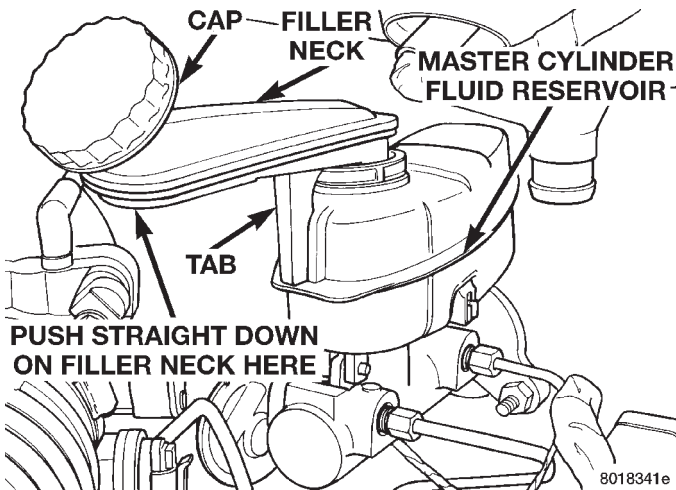

Fig. 177 Master Cylinder Fluid Reservoir Filler Neck INSTALL
(1) Check brake fluid level in master cylinder fluid reservoir to be sure brake fluid is not in the filler neck. If brake fluid is in filler neck, lower fluid level before removing filler neck from fluid reservoir
(2) Grasp filler neck at cap end (Fig. 177) and push straight down. This will cause the filler neck to pop out of the fluid reservoir.
(1) Wet the O-ring on the reservoir end of the filler neck with fresh clean brake fluid.
(2) Position the filler neck in the opening on the fluid reservoir. Ensure tab on filler neck (Fig. 177) is in the groove on the front of the fluid reservoir.
(3) Push down while slightly rocking filler neck until filler neck snaps into the fluid reservoir opening.
(4) Install cap on filler neck.
(5) Check and/or add brake fluid in reservoir to ensure it is at the correct level.